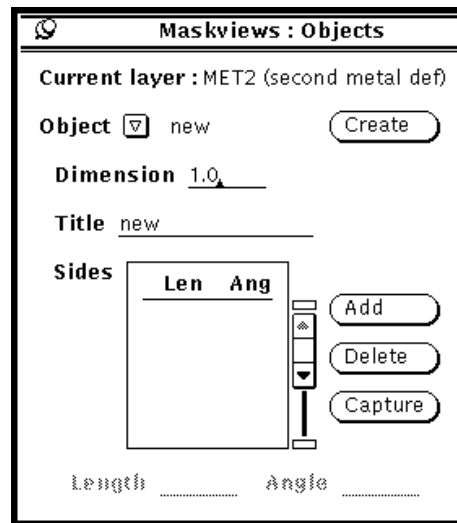

Figure 10-5: Objects Popup
- **Transmittances** — This mode is similar to the phases mode except the key and the display (Figure 10-5) shows mask transmittance values.
All masks objects used inside MASKVIEWS are polygons, which may be irregular and contain up to several hundred sides. Most drawing and editing is performed in terms of polygons. Facilities, however, are provided to allow you to draw in terms of more regular shapes. The **Objects** popup (Figure 10-5) controls the current shape drawing mode. To display this popup, select **Define→Objects...**. The **Object** field on this popup indicates what type of shapes are to be drawn on the current edit layer. Initially, three options will be available: **polygon**, **stick**, and **serif**.